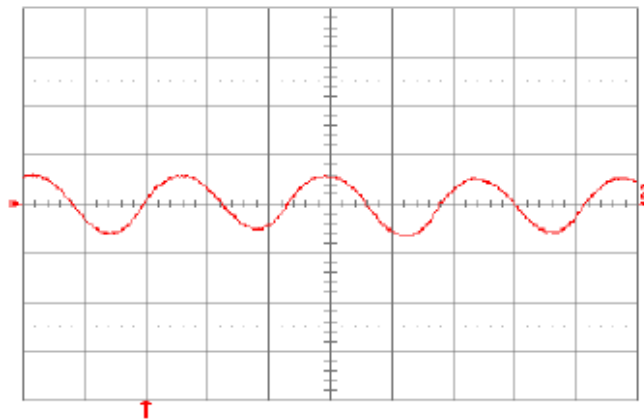

**Fig. 5.0V.14:** Test Setup for measuring input reflected ripple currents,  $i_c$  and  $i_s$ .
**Fig. 5.0V.13:** Output voltage ripple (20 mV/div.) at full rated load current into a resistive load with  $C_o = 10\ \mu\text{F}$  tantalum +  $1\ \mu\text{F}$  ceramic and  $V_{in} = 48\text{V}$ . Time scale:  $1\ \mu\text{s}/\text{div}$ .